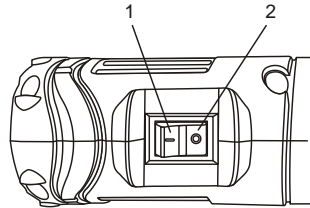

Fig. 6
1. To turn the detail saw ON, press the rear of the ON/OFF switch (1) (Fig. 6).
2. To turn the detail saw OFF, press the front of the ON/OFF switch (2).